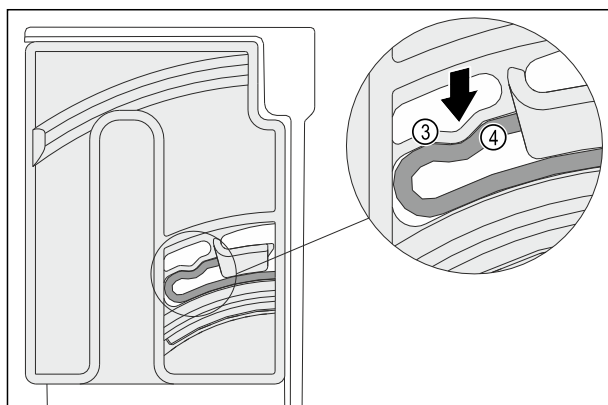

Fig. 125
- The elastic element *Fig. 125 (3)* of the swivel unit clicks audibly in the round mold of the ridge *Fig. 125 (4)*.